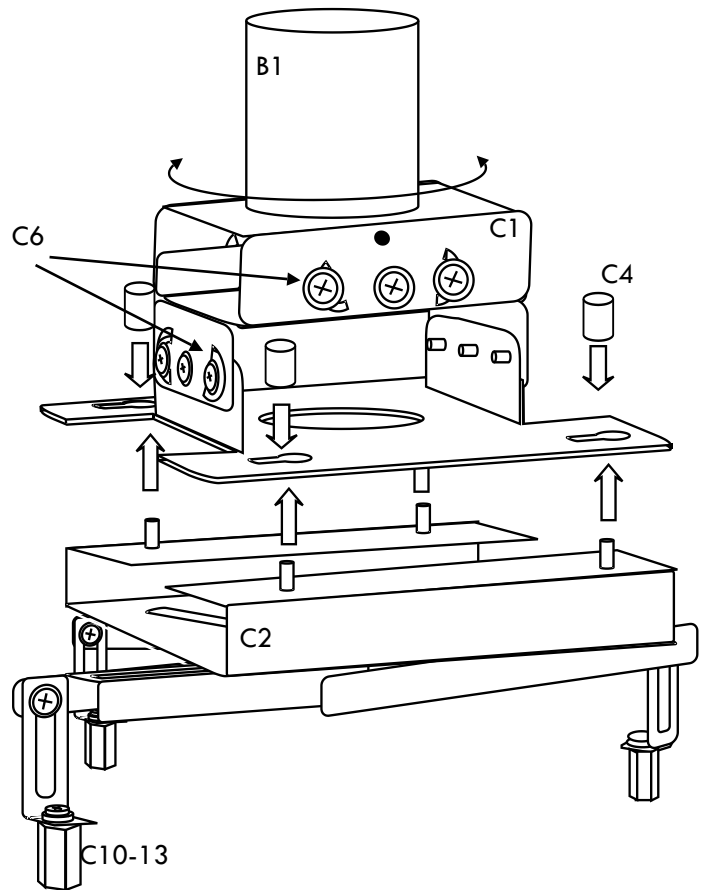

Figure 13. Attach Projector & Sled to Ceiling Mount
1. Attach the universal projector sled (C2) to the Adjustable Ceiling Mount (C1) and secure in place by tightening the four thumb nuts (C4) (See Figure 13).